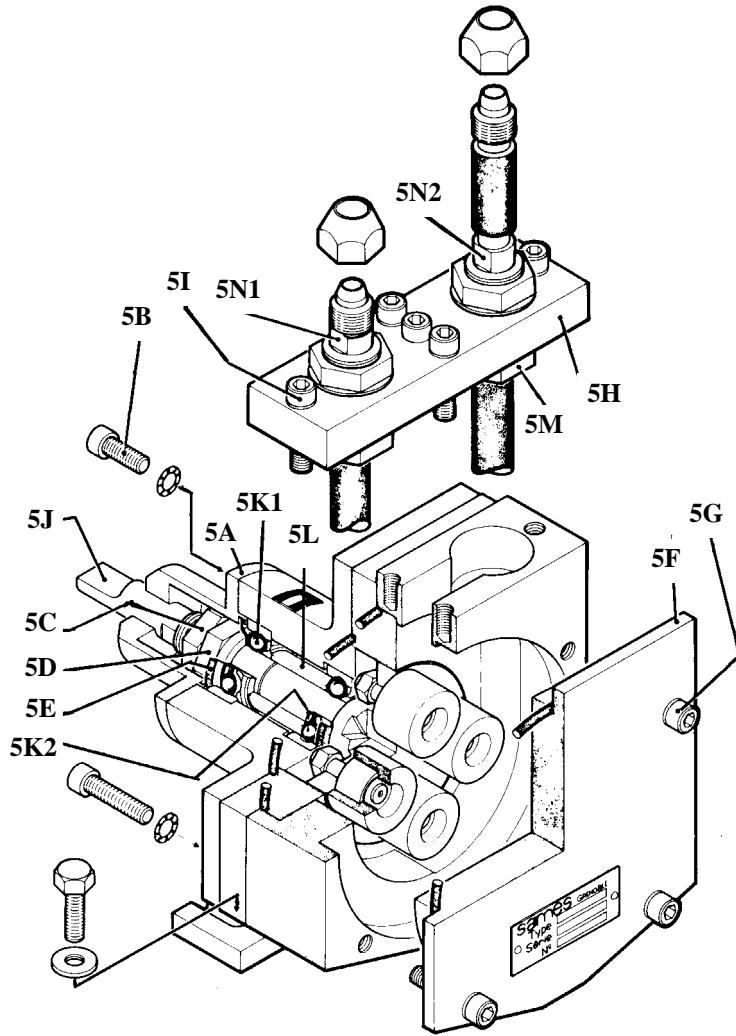

Figure 11
13.2.DISMANTLING OF THE “DOSEMAIL” PUMP (SEE FIGURE 11)